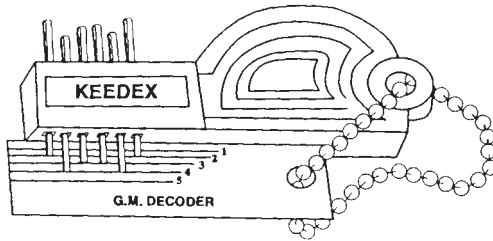

Figure 2.33 A General Motors Decoder decodes the tumblers in a GM lock without complete disassembly of the lock. (Keedex Mfg.)
- General Motors lock decoder (Fig. 2.33)